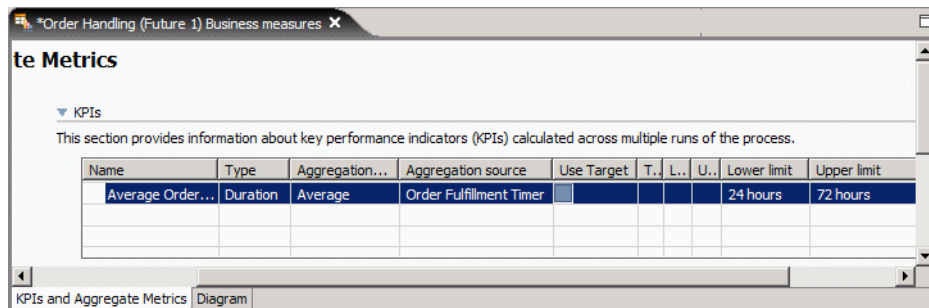

Figure 8-15 KPI Average Order Fulfillment is 3 Days or Less
- ▶ Use the following attributes (Figure 8-15):